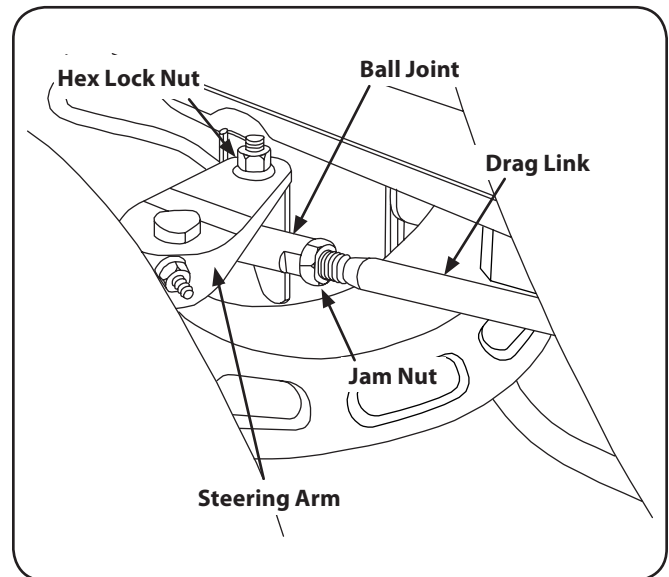

Figure 6-13
- Loosen the jam nuts from the ball joints. See Fig. 6-13.
- Disconnect the front ball joints from the steering arms by removing the hex lock nuts. Refer to Fig. 6-13. Manually move each wheel to achieve the required toe-in and equal D measurements.